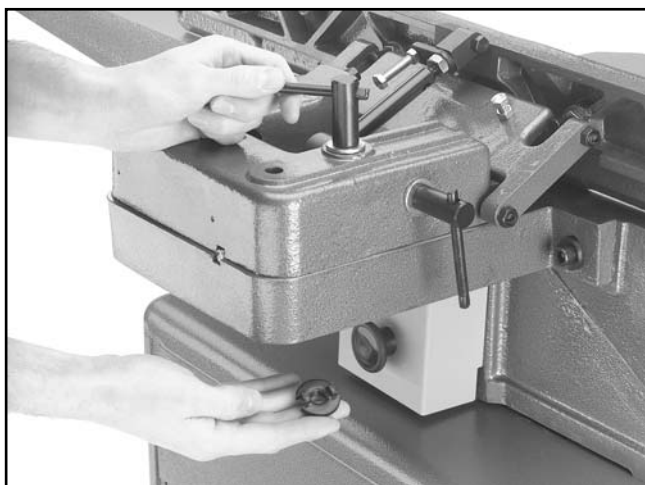

Figure 22. Installing fence lock with the tabs on the nut facing up.
2. Install the fence lock the opposite way that you removed it before clean up, with the handle on top and the tabs of the nut facing up as shown in **Figure 22**.